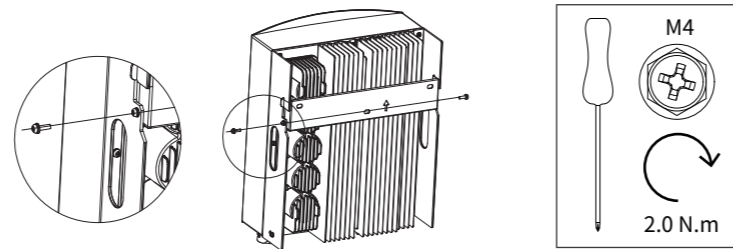

Figure 2.3 Wall mounted bracket
- Lift the inverter and align the rear bracket of the inverter with the convex of the mounting bracket. Hang the inverter on the mounting bracket and make sure it is secure (see Figure 2.3).